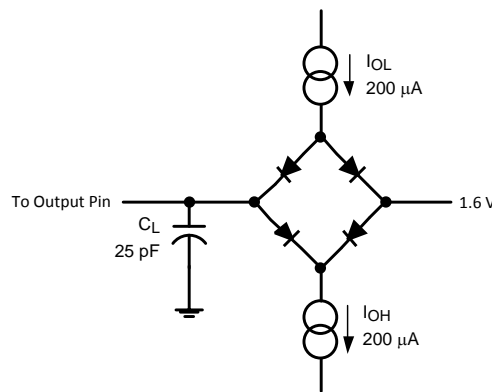

Figure 2. Timing Test Circuit
- (1) Measured with the timing test circuit shown in Figure 2 and defined as the time taken by the output signal to cross 1.0V.
- (2) Measured with the timing test circuit shown in Figure 2 and defined as the time taken by the output signal to cross 1.0V or 2.0V.
- (3)  $t_{DIS}$  is derived from the time taken by the outputs to change by 0.5V with the timing test circuit shown in Figure 2. The measured number is then adjusted to remove the effects of charging or discharging the output capacitance. This means that  $t_{DIS}$  is the true bus relinquish time, independent of the bus loading.